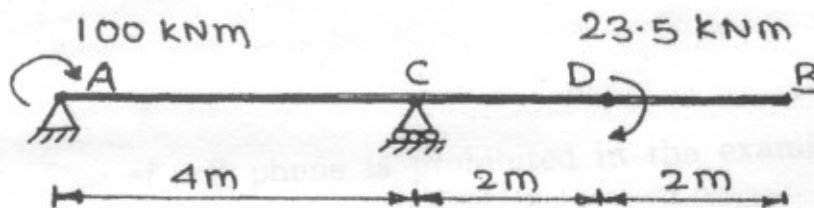

Fig. 11 (b)
- (b) Beam AB is loaded and supported as shown in Fig. 11 (b). Determine the magnitude of deflection at point B in terms of EI by moment area or conjugate beam method. [8]